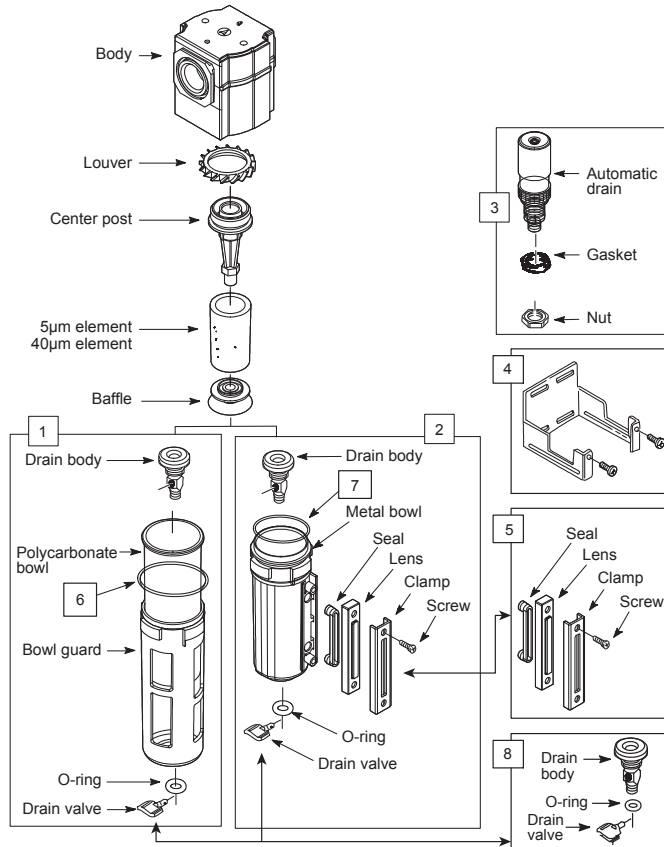

figure 2
## OPERATING INSTRUCTIONS (See Figure 2)
- 1 **Disassembly (See Figure 2)**
- Disassemble in general accordance with the parts illustrated in Figure 2. Do not remove the drain unless replacement is necessary. Remove and replace only if drain malfunctions or is being replaced with optional automatic drain (4ZK18A).
- 2 **Cleaning(See Figure 2)**
- 3 **Assembly (See Figure 2)**
- Assemble filter as shown on Figure 2.